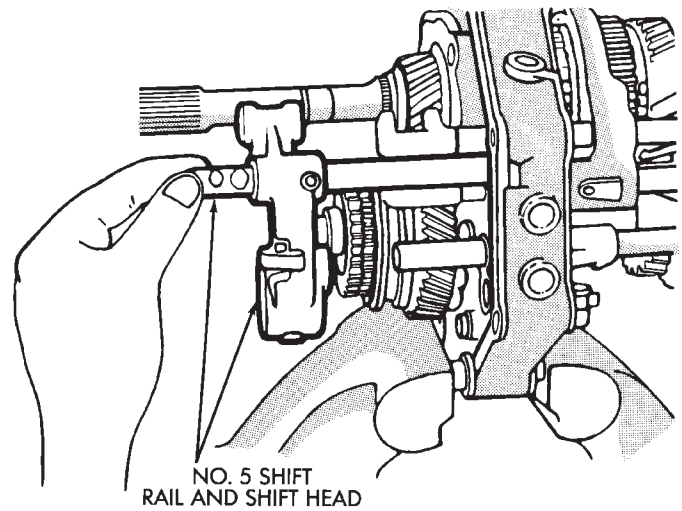

Fig. 13 Removing No. 5 Shift Rail And Shift Head
(7) Pull No. 5 shift rail and shift head out of plate (Fig. 13).